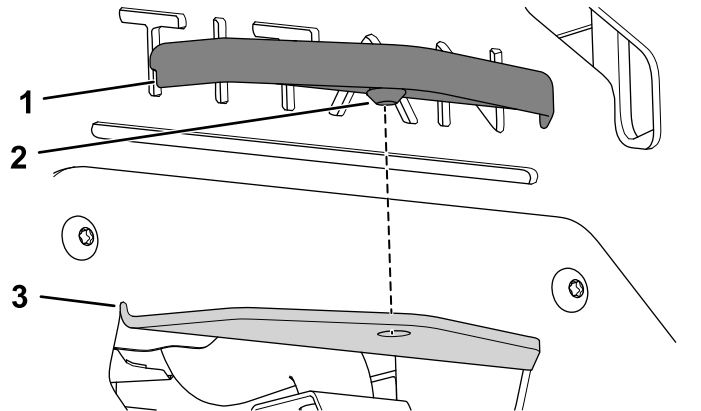

Figure 20
2. Align the hitch cover over the hitch and press it into place (Figure 20).